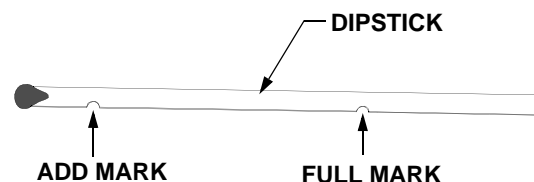

Figure 52
- Always keep the oil level between the full and the add marks on the dipstick. See Figure 52.
- SLOWLY pour oil into the crankcase until the oil level reaches the “FULL” mark on the dipstick. Refer to Figure 52.